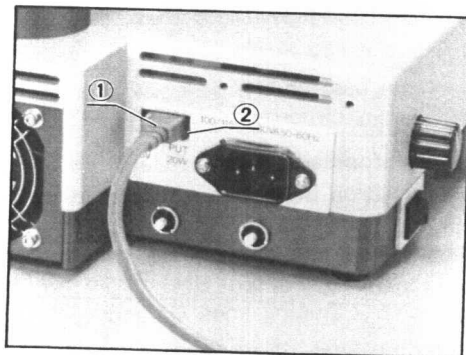

Fig. 14
- 1) Connect the cord plug ① of the illuminator to the output jack ② (Fig. 14)